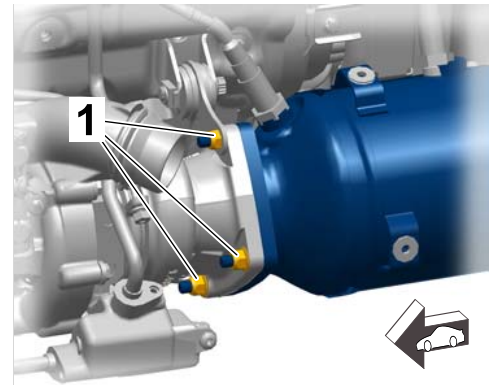

Figure 20
-2- (⇒ *Figure 20*-arrow-).
- 5.10 Install and tighten the remaining hexagon nuts ⇒ *Figure 20*-1- securing the catalytic converters to the turbocharger.